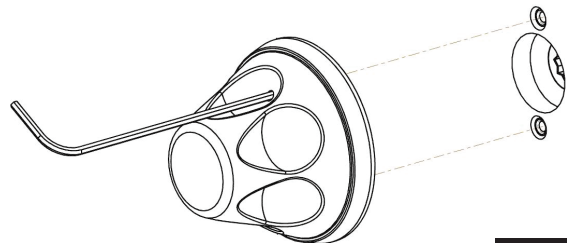

Figure 20
2. Install inside knob assembly by threading mounting screws into lugs from outside knob assembly with supplied Allen wrench. (Figure 20)